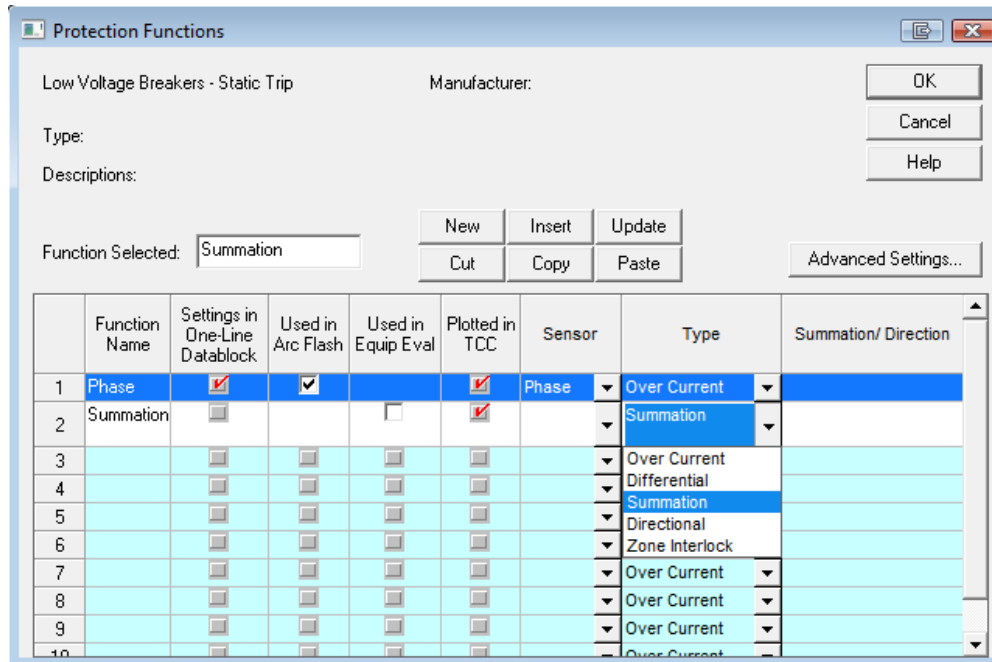

Figure 5
2. Click the New button and type in Summation under the Function Name column. Select Summation from the Type pull-down menu (Figure 5).